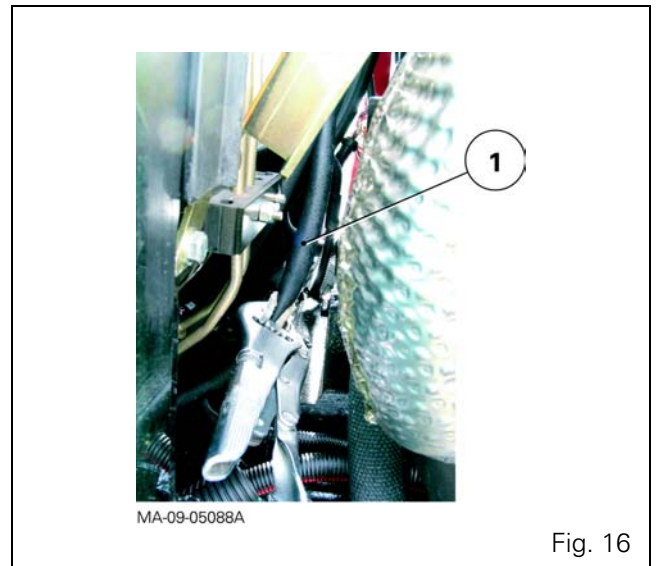

Fig. 16
10. Locate the return hose (1) of the brake master cylinders and pinch it shut without flattening it excessively (Fig. 16).